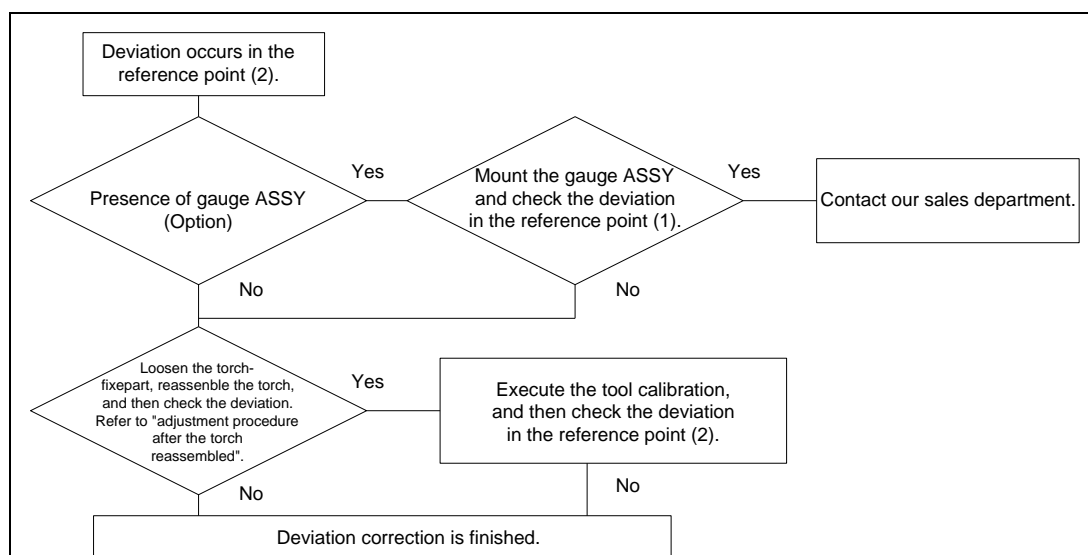

Fig.3.5 Checking procedure when the torch deviated
In the daily check, see if no deviation has occurred in the reference point (2) taught by the origin-position check program. If any deviation has occurred caused by the torch collision etc., correct it by the procedure Fig.3.5.